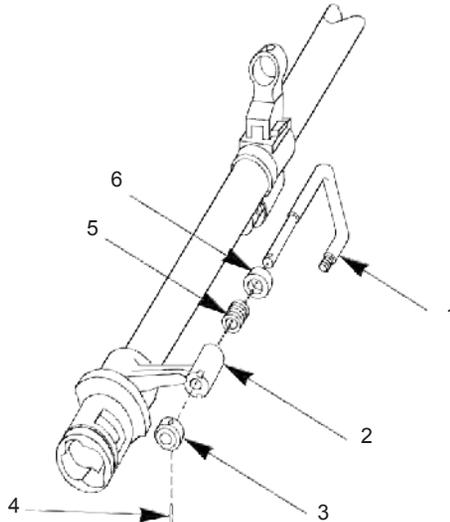

Figure 4. Handle, Spring Pin, Collar, Spring, Bushing.
5. Rotate handle (Figure 4, Item 1) to the folded down position (along side of receiver). Drive out spring pin (Figure 4, Item 4) and discard. Remove collar (Figure 4, Item 3). Remove handle (Figure 4, Item 1), spring (Figure 4, Item 5), and bushing (Figure 4, Item 6) from handle bracket (Figure 4, Item 2).